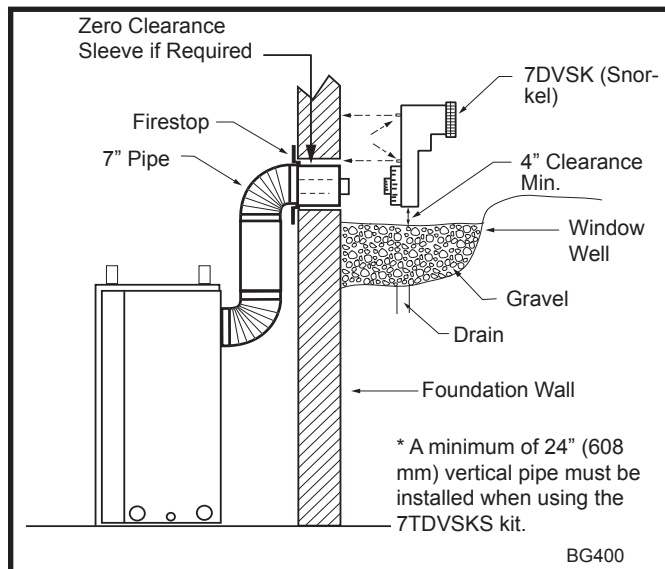

Fig. 37 Below grade installation.
2. Remove soil to a depth of approximately 16" (406mm) below base of snorkel. Install drain pipe. Install window well (not supplied). Refill hole with 12" (305mm) of coarse gravel leaving a clearance of approximately 4" (102 mm) below snorkel. (Fig. 37)
7. Level the soil so as to maintain a 4" (102 mm) clearance below snorkel. (Fig. 37)